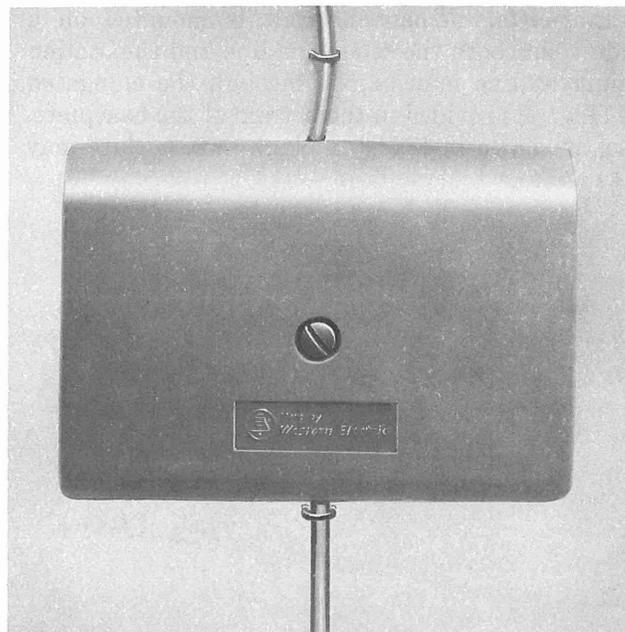

Fig. 1—Typical Installation of a 150A CSU
1.01 This section contains descriptive information and procedures required for installing and maintaining the 150A channel service unit (CSU) (Fig. 1).